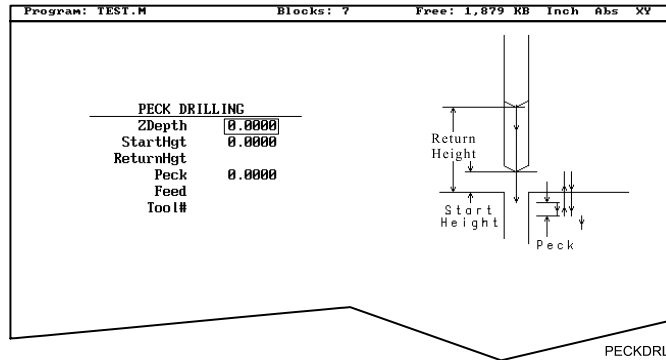

Figure 4-2, PECK DRILLING Graphic Menu
2. Highlight **Pecking** and press **ENTER** to display the **PECK DRILLING** Graphic Menu. Refer to **Figure 4-2**.